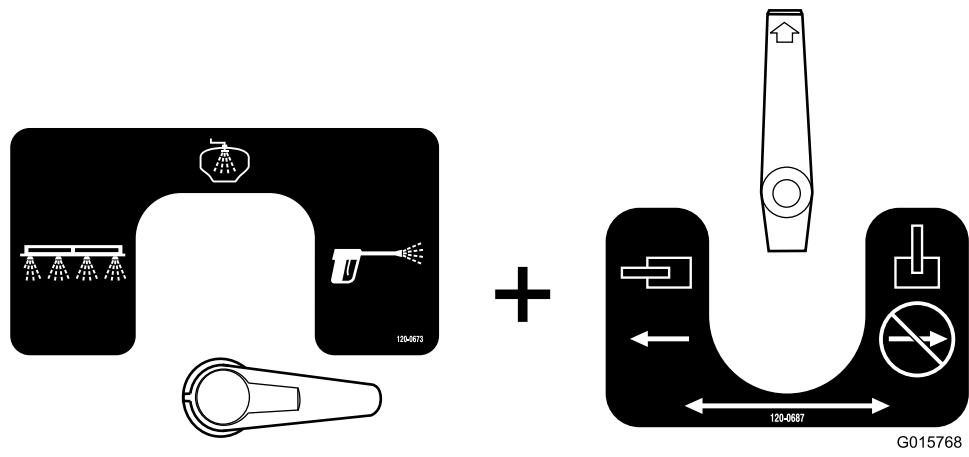

Figure 54
- This is the spray gun configuration (Figure 54). Use this configuration to spray rinse water out of the hand spray gun.